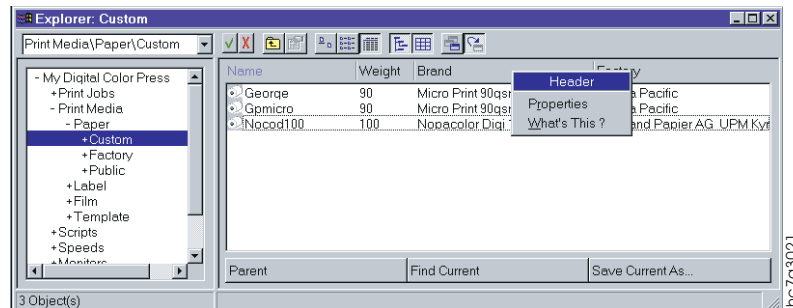

Figure 36. Header Drop-Down Menu
1. Click the right-mouse button on the header. The **Header** drop-down menu displays as shown in Figure 36.